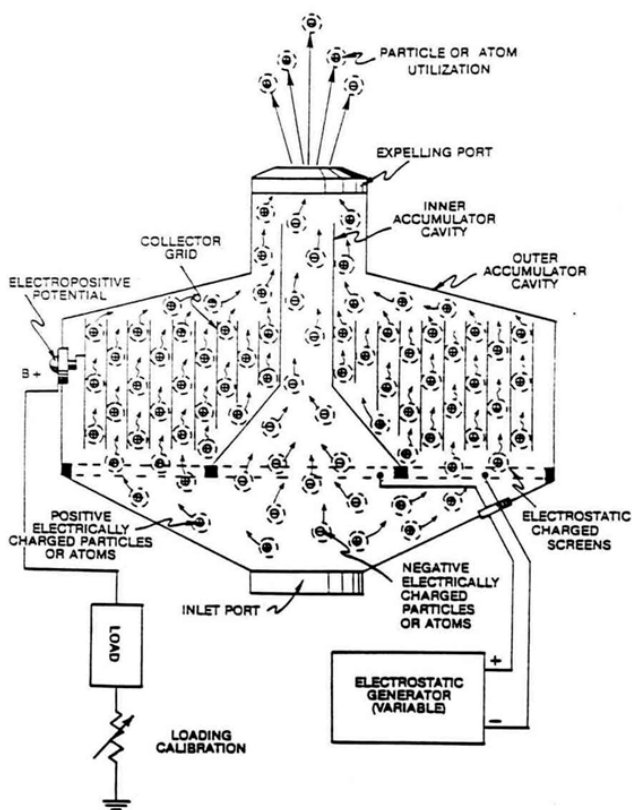

FIG. 40: ELECTRICAL POLARIZATION GENERATOR
**Circuit State:** Moving **electrically charged atoms** (1/2) through an **electrical grid system** (50) inserted into a **dual gas accumulator cavity** (30/40) separated by an **ambient air filtering screen assembly** (20A) of opposite voltage polarity... forming **Electrical Polarization Generator** (90), as illustrated in Figure 40 as to Figure 8 subtitled "Regenerative Energy Feedback Module."
After ionic gas formation, the electrically charged gases are expelled out of said **Fuel Cell** (Figure 20YAA) as to **Figure 3B** and enter into said **Electrical Polarization Generator** (90) of figure 40.
**Electrical Skin Effect** occurs when the electrical field that surrounds the gas ions touches the **electrical conduction plate** (6), as illustrated in Figure 40.